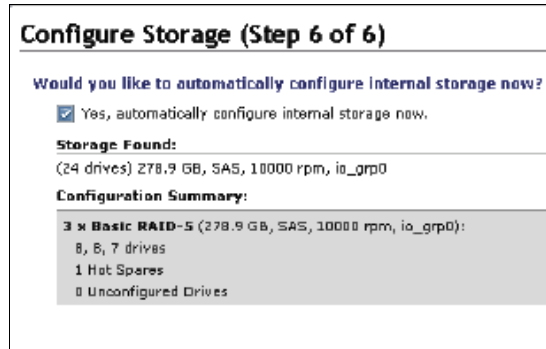

Figure 2-14 Internal disk drives configuration proposed
8. The configuration wizard detects the internal disk drives, as shown in Figure 2-14. The following choices are available: